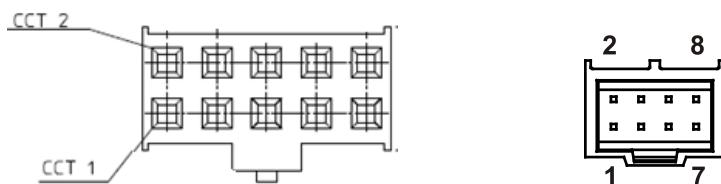

Figure 5: Molex vs Elmo Technical Diagram Examples Showing Pinout Numbers
It should be noted that in all Elmo manuals the pinouts are shown differently to Molex's technical sheets. Molex shows pin 1 at the bottom-left when looking at the face of the cable-side connector, tab down (Figure 5).
- a. At the drive, connect the feedback drain wire to one of the COMRET terminals in the Molex feedback connector (Figure 5).